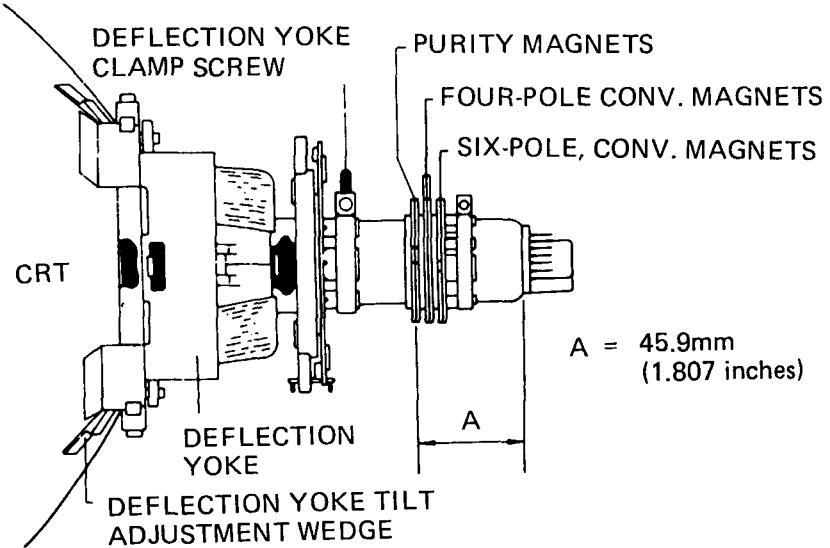

Figure 13. Picture Tube Neck Components Location
1. Check for the correct location of all neck components. Refer to Figure 13.
## 10. Static (Center) Convergence (Figs. 13—16)